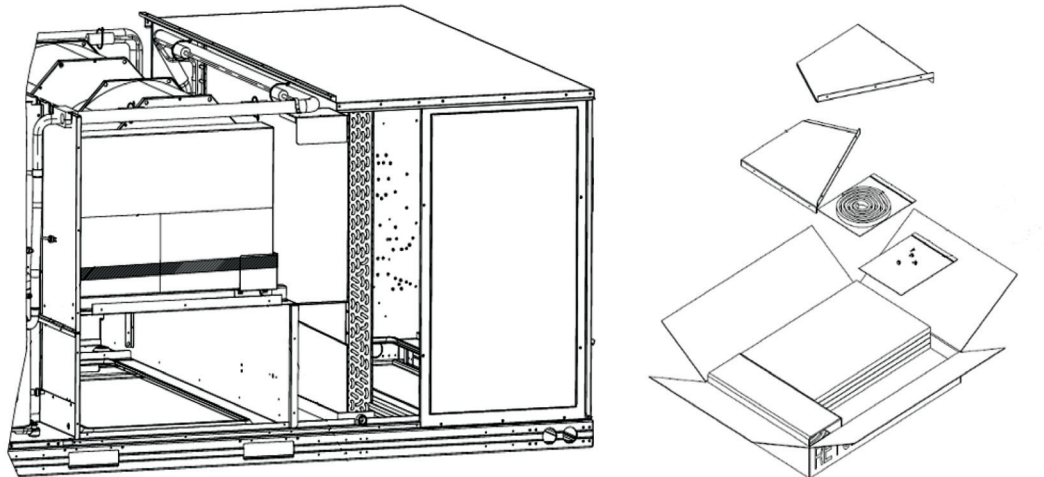

Fig. 32 — Barometric Hood Box Parts Location
2. Remove the side panels located in the hood parts box (see Fig. 32).